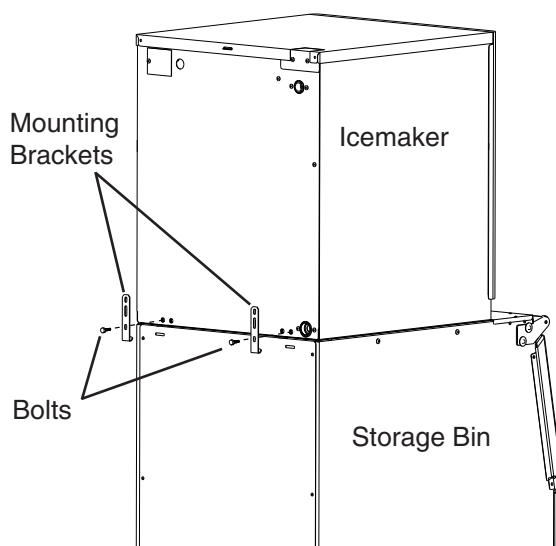

Fig. 2
- 4) Secure the icemaker to the dispenser unit/storage bin using the 2 mounting brackets and the bolts provided. See Fig. 2.